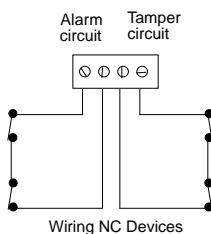

Figure 27. Wiring NC Devices to the 735R
2. Connect Normally Closed contacts wired as shown in Figure 27.